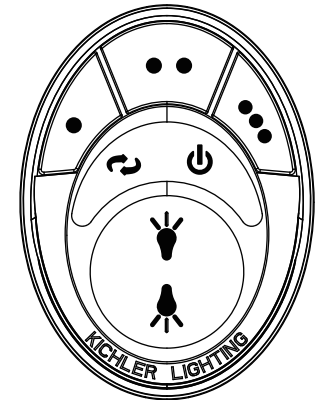

Fig. 32
Step 5. The buttons control the fan speed and light as follows: (Fig. 32)